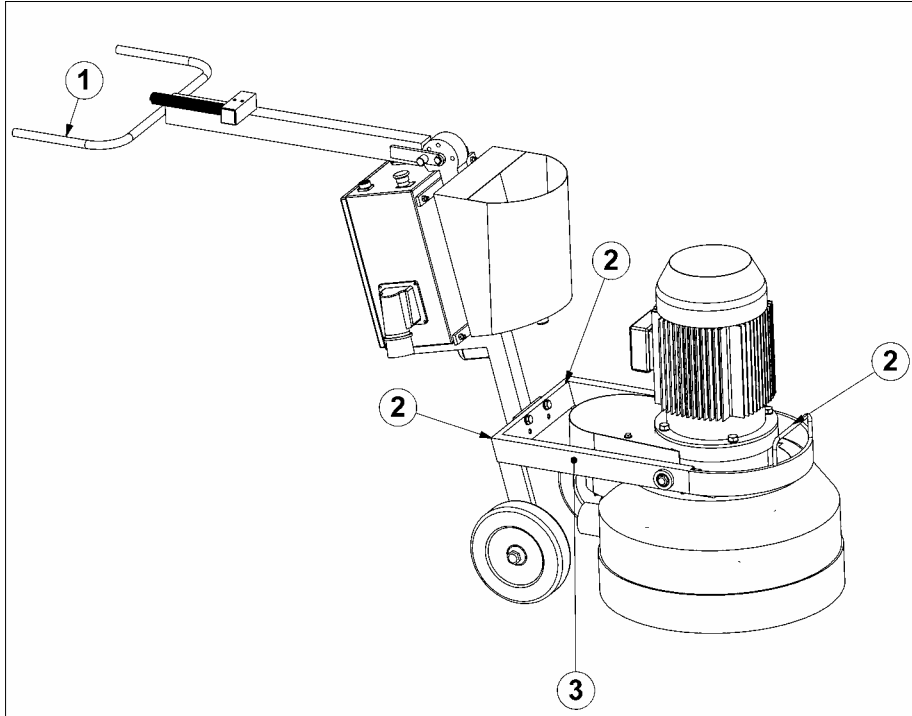

Fig. 4.1
To move the machine press down the handgrips (1) see fig.4.1 of the machine until the front part rises approximately 10 cm from the ground.